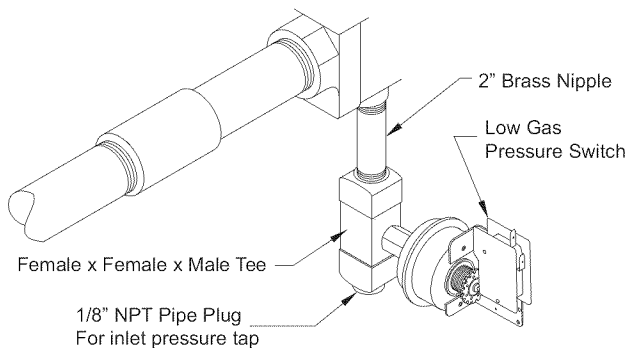

Fig. 27 - 80% Low Gas Pressure Switch
2. Remove Low Gas Pressure Switch, brass tee and 2-in. brass nipple from the gas valve inlet pressure tap. (See Fig. 27.)